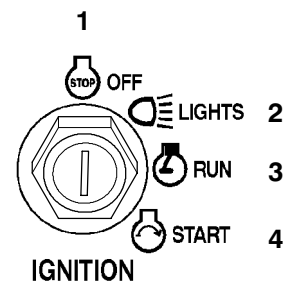

Figure 7
8. Turn the ignition key clockwise and hold it in the “START” position (Fig. 7). When the engine starts, release the key.
2. Turn the ignition key to “OFF” (Fig. 7).